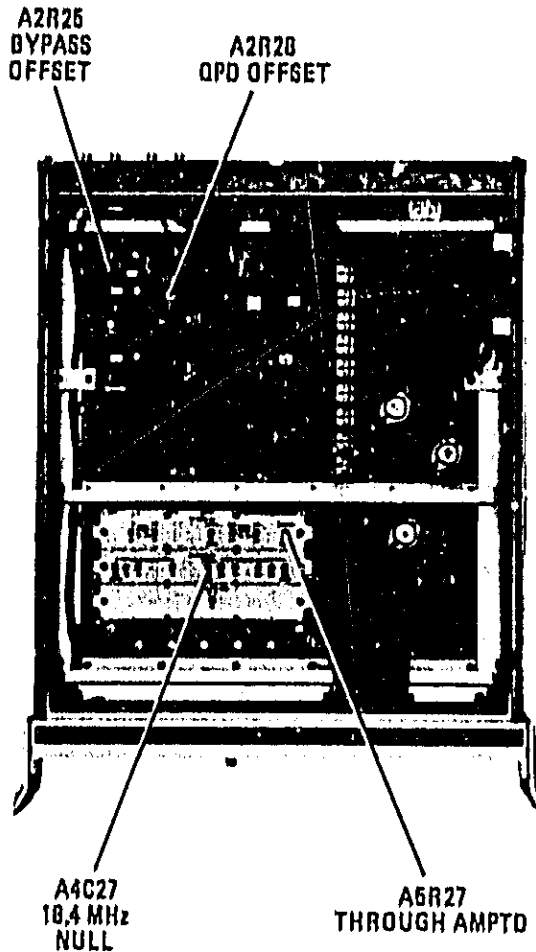

Figure 5-2. Amplitude Adjustment Locations
11. Adjust A4C27 18.4 MHz NULL (Figure 5-2) for minimum signal amplitude.